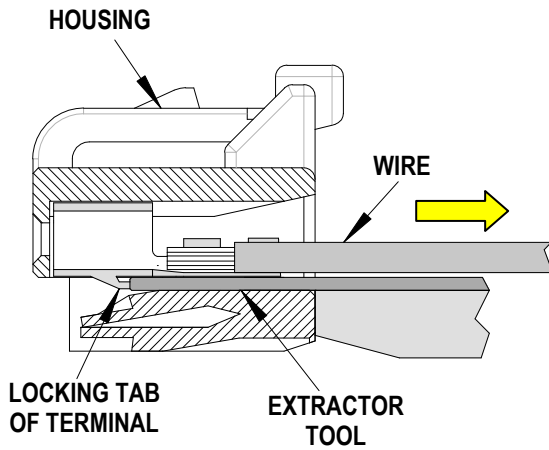

Figure 2
3. Holding the wire and the tool together, pull the wire and the tool back through the connector slot in the arrow direction as shown in Figure 2.